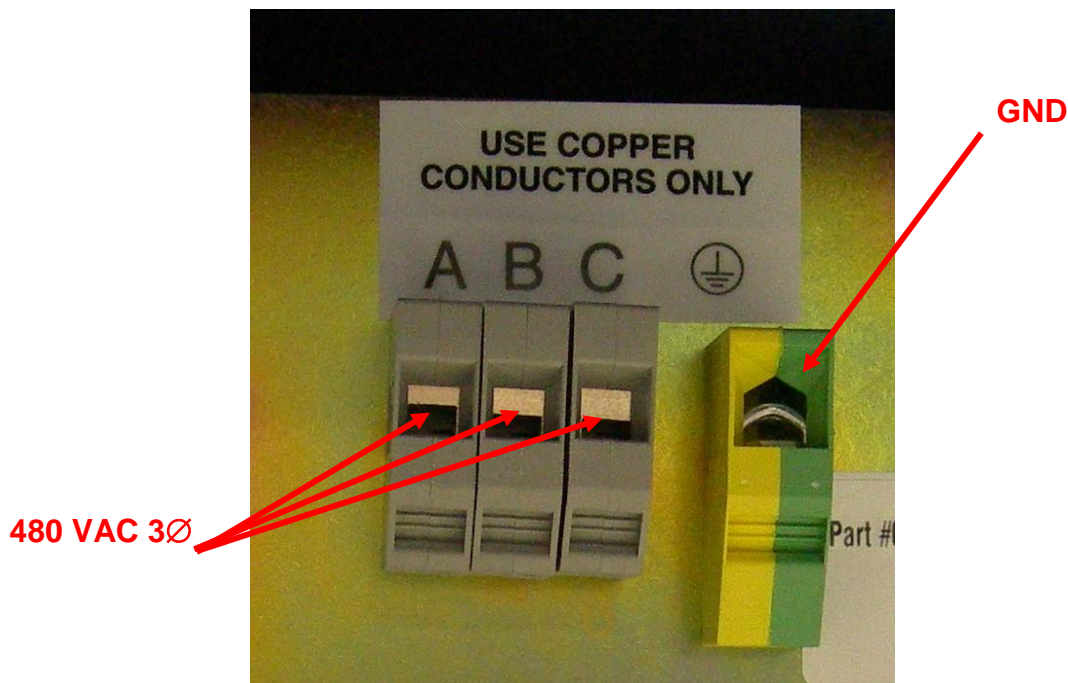

Figure 10: Charger electrical connection points
- Strip the ground (**GND**) wire back 0.5 inch (12 mm) and connect it to the GND terminal (Figure 10). **Torque the terminal screw to 35 in-lb minimum, 40 in-lb maximum.**
- Strip the conductors back 0.5 inch (12 mm) and connect them to the three-pole AC terminal block marked ABC (Figure 10). Torque the terminal screws to 35 in-lb minimum, 40 in-lb maximum. The charger is not phase rotation-sensitive.